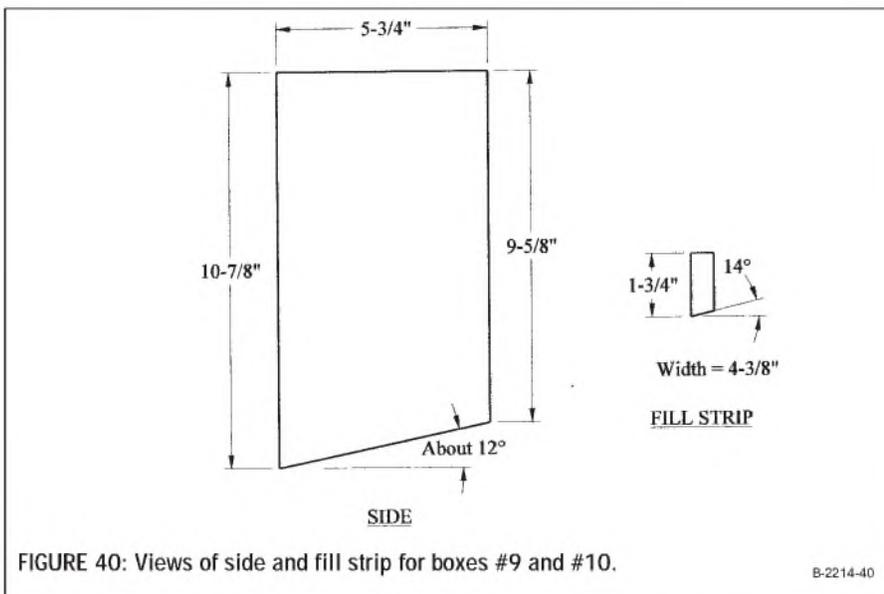

FIGURE 40: Views of side and fill strip for boxes #9 and #10.
Sides	See Fig. 40
FS	Fill strip—see Fig. 40
- Views of side board and fill strip: *Fig. 40*